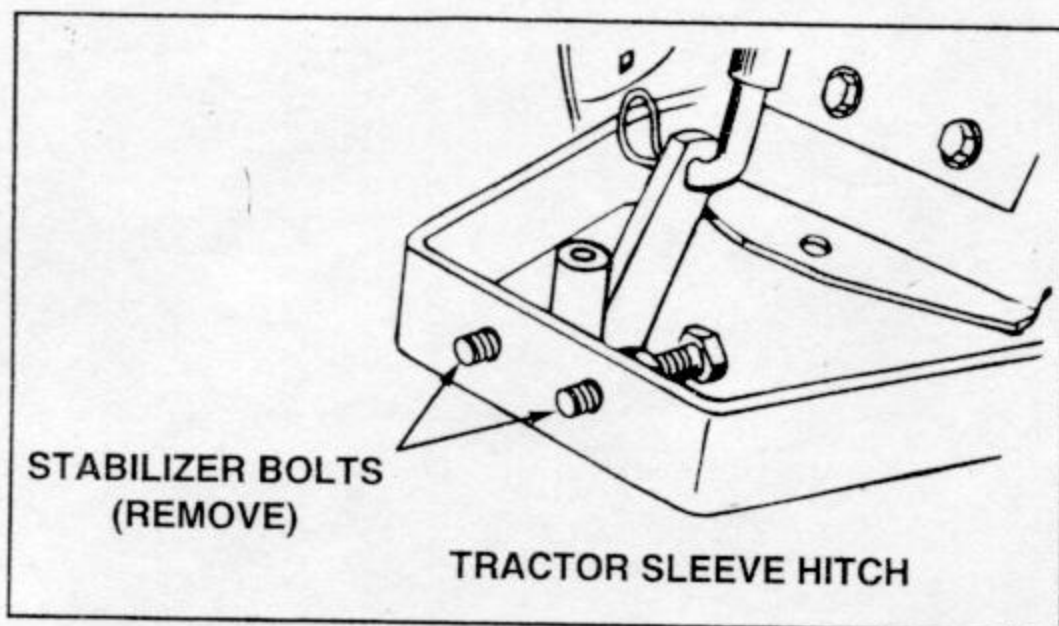

FIGURE 7
1. Remove the stabilizer bolts from the tractor's sleeve hitch as shown in figure 7 to allow side to side motion of the disc cultivator.